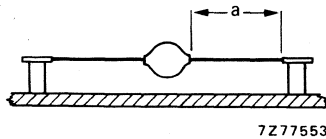

Fig. 3 Mounting method 2.
2. Thermal resistance from junction to ambient when mounted to solder tags at a lead length $a = 10$ mm; Fig. 3
Fig. 8 Interrelation between the steady-state dissipation excluding power in avalanche region (left-hand graph) and the maximum permissible ambient temperature (no leads of other dissipating components running to the same tie-points) in accordance with the mounting methods mentioned in Figs 3 and 4.